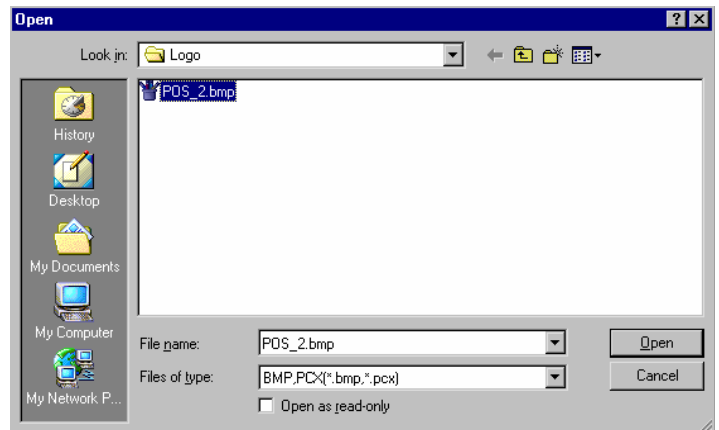

Figure 10
4. Navigate to the applicable folder where the image is stored and select the image. Click the [Open] button to continue. (Fig. 10)